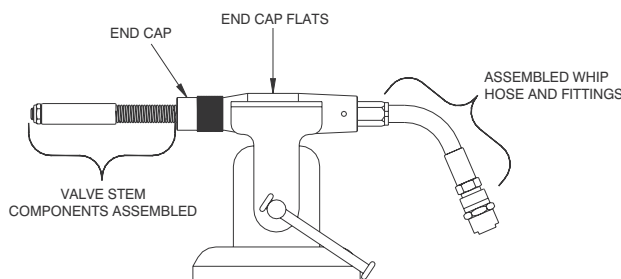

Figure 11-15. Place Tail Assembly in Vise.
2. Place the End Cap (16) horizontally in a vise or saddle clamp as shown in Figure 11-15.
- b. Place the Whip Hose end of the End Cap so the Whip Hose (18) to clears the vise jaws.